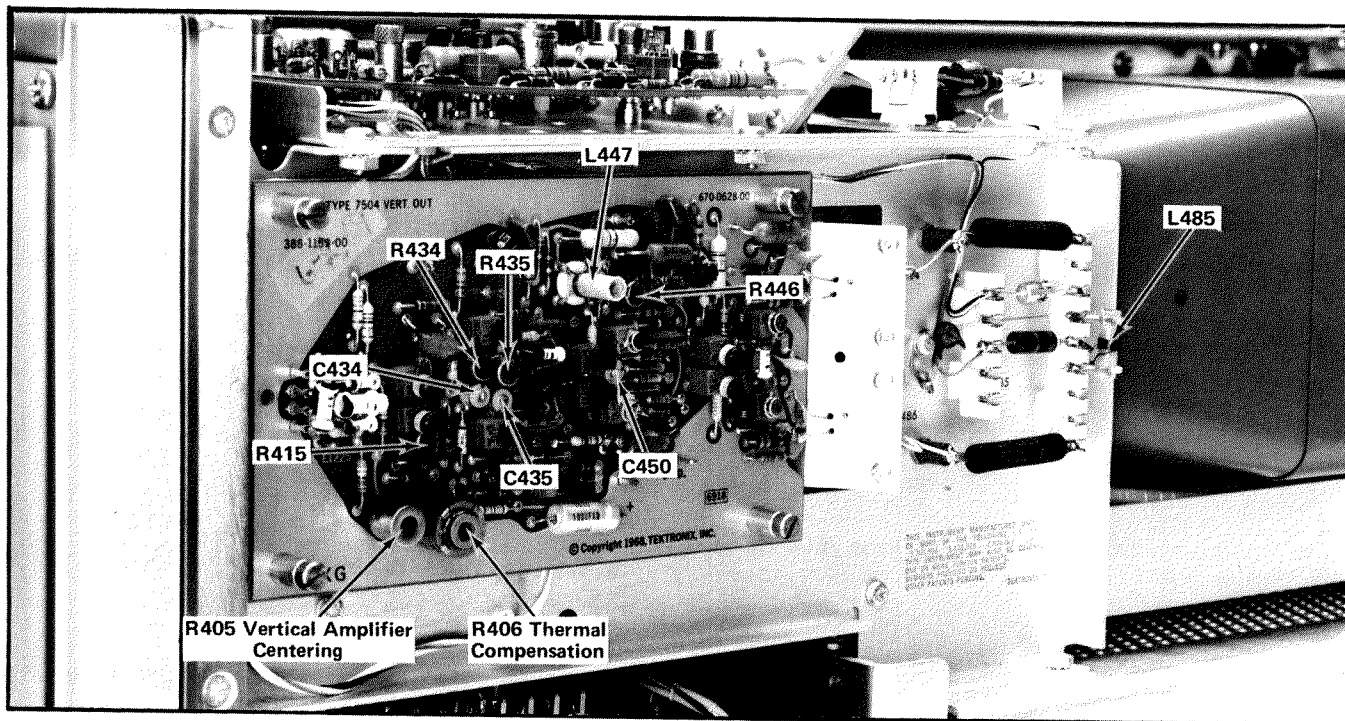

Fig. 5-6. Location of adjustments on the Vert Out board.
e. ADJUST—Vertical Gain control R415 (see Fig. 5-6) for exactly six centimeters between the second and sixth traces (corresponding to the center 6 divisions) on the graticule. Use the calibration fixture position control as necessary.
- c. ADJUST—R405 (see Fig. 5-6) for exact centering of the displayed trace on the center horizontal graticule line.
- f. ADJUST—R406 (see Fig. 5-6) for minimum vertical readout shift as the Calibration Fixture position control is used to move the trace off screen above and below the graticule.
e. ADJUST—R406 (see Fig. 5-6) for minimum change in the stationary trace as the calibration fixture position control is used to position the other trace off screen above and below the graticule.
- g. ADJUST—R435-C435 (major effect 20 - 50 ns after corner), R434-C434 (for best corner without ringing), L447 (major effect 5 ns after corner), R446 (major effect 8 ns after corner), L485 (major effect 5 ns after corner) and C450 (fast leading edge) for optimum square-wave response (use low-capacitance screwdriver for the capacitors and tuning tool for the inductors). Fig. 5-6 shows the location of these adjustments. Since these adjustments interact, readjust until optimum square-wave response is obtained, with rise time of less than 3.5 nanosecond. Use either X1 or X10 Magnifier on the Type 7B50 as required to best view the effect of each adjustment.
c. ADJUST—DC Center control (R505, see Fig. 5-6) for
j. ADJUST—Limit Center control (R525, see Fig. 5-6) for identical DC base line levels.